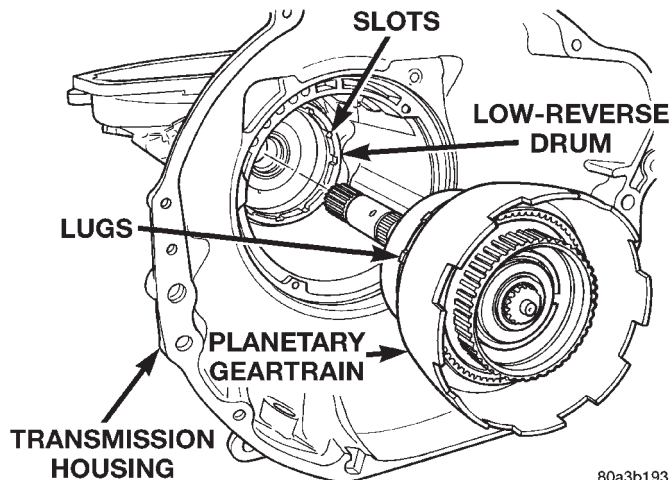

Fig. 96 Output Shaft And Planetary Geartrain
(21) Install assembled output shaft and planetary geartrain in case (Fig. 96).
(22) Align drive lugs on rear planetary gear with slots in low-reverse drum (Fig. 96). Then seat planetary assembly in drum.
(23) Install governor on output shaft.